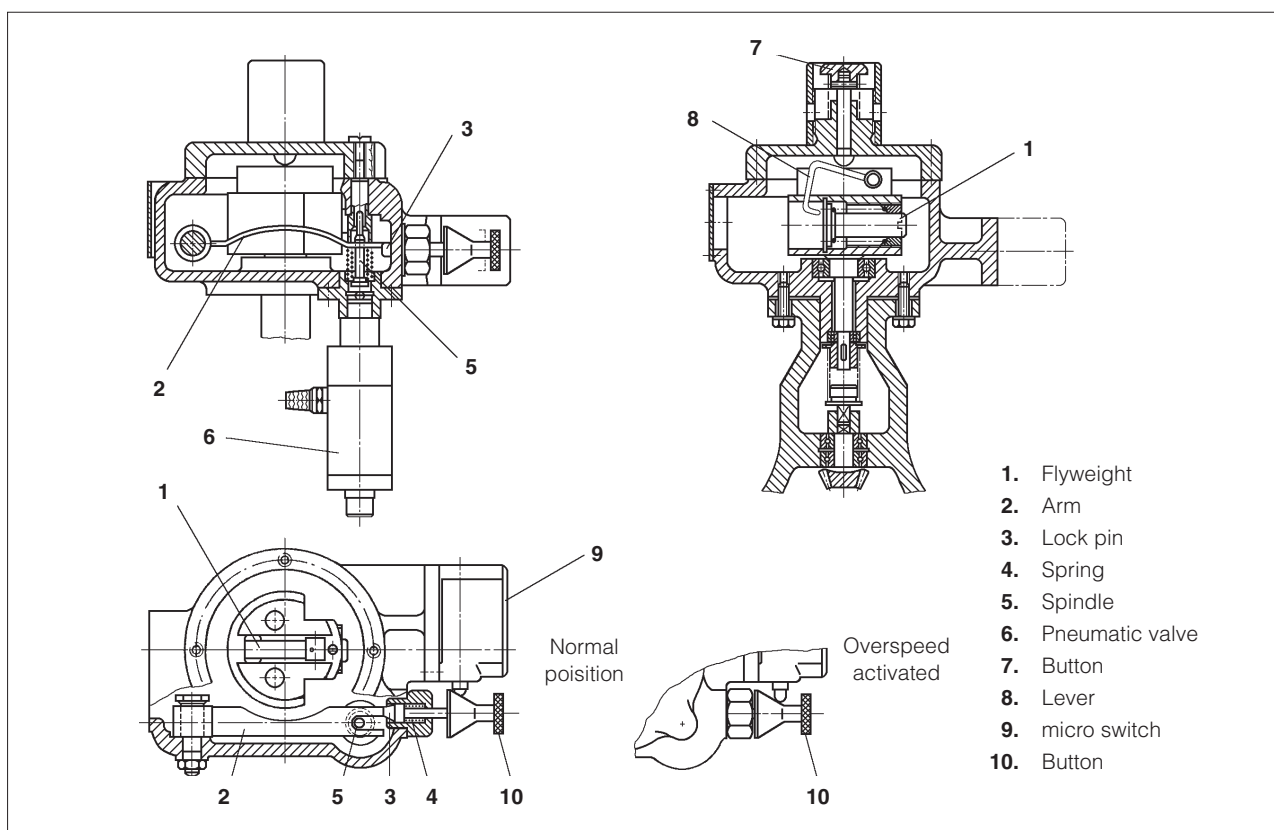

Fig 1 Mechanical overspeed (SSH 81).
The engine can be stopped manually by pressing down the button (7), see fig. 1, which will activate the spring-loaded fly weight (1) through the lever (8).
As standard the engine is equipped with an instrument panel, comprising instruments for visual indication of the most essential pressures. Illustrated on fig. 1.